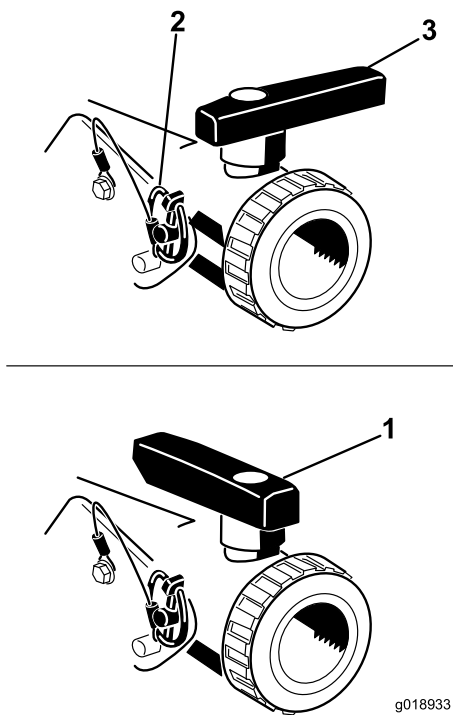

Figure 29
Open the valve to drain any unused material from the tank and dispose of it according to local codes and the material manufacturer's instructions (Figure 29). After draining, remove the lynch pin on the bracket securing the drain valve to the machine and let the valve rest on the ground. This allows any residual material in the line to drain.
3. When the tank has drained completely, install the valve to frame with the lynch pin removed previously and close the drain valve (Figure 29).